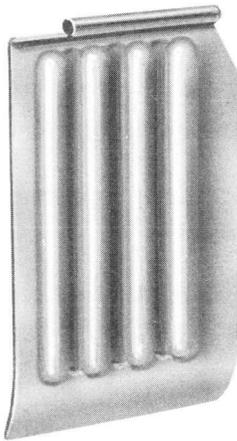

Fig. 11 — P-296792 Coin Shield
- (1) Place P-247411 pin through tubular bearing at top of P-296792 shield. Curved-in portion on bottom of shield is toward hopper when loop of pin is to the front (see Fig. 11).
- (2) Hold loop of pin with long nose pliers or fingers and place coin shield pin in hole in rear of hopper.
- (3) Hold shield in place with fingers and secure end of loop in front hole of hopper with long nose pliers.
- (4) Adjust loop so that pin does not come out when play is taken up in either direction.
- (5) Check operation of shield.